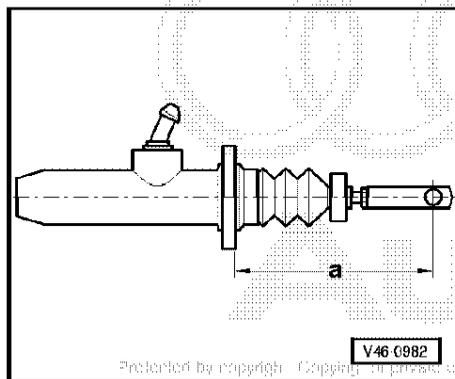

Fig.1 Adjusting clevis
- ◆ Adjusting => Fig. 1
- ◆ Adjusting => Fig. 1, Page 30-6
- ◆ Removing => Fig. 1